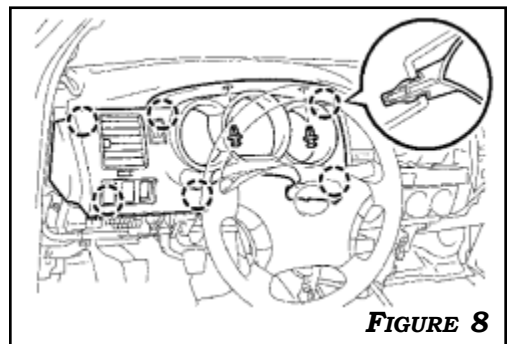

FIGURE 8
7. REMOVE THE 2 CLIPS. RELEASE THE 6 CLIPS AND REMOVE THE INSTRUMENT CLUSTER FINISH PANEL SUBASSEMBLY. **FIGURE 8**